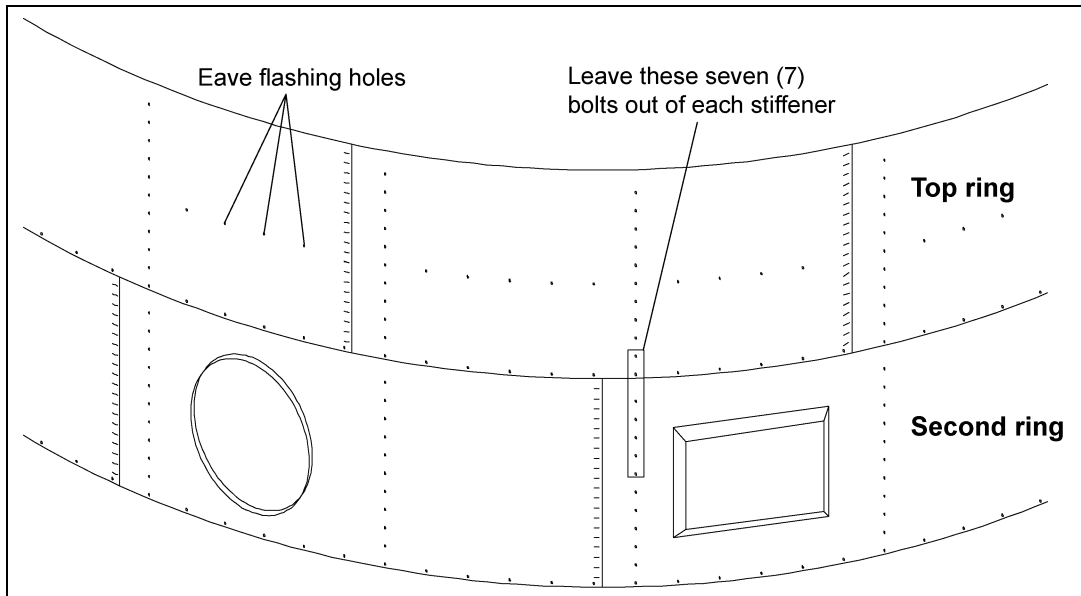

Figure 5B
**NOTE:** The fan entrance sheet and access door are located in the second ring. Attach the top stiffeners, leaving out the seven (7) bolts indicated in Figure 5B at each stiffener location. Install the flashing bolts from the outside and tighten first nut on the inside of the bin.